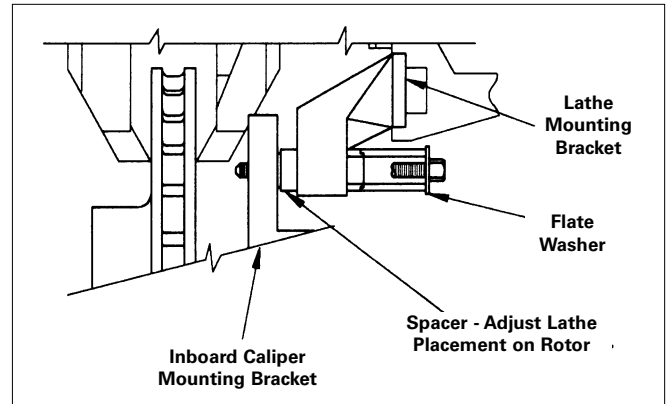

Figure 8
4. The spacers may also be used to achieve the proper lathe position on the rotor, by placing the spacers on the caliper/mounting bolts between the lathe mounting bracket and the caliper mounting bracket, Fig. 8.
5. The flat washers, provided in the hardware kit, should be used between the caliper bolt head and the spacers to insure a good seat for the bolt head, Fig. 8.